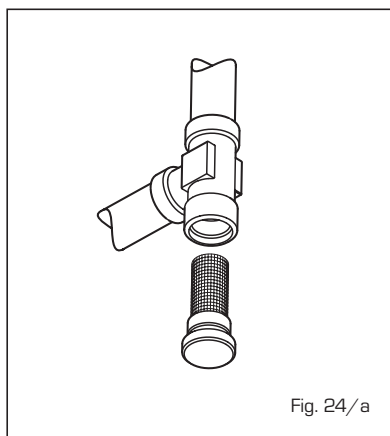

Fig. 24/a
4.7.2 Cleaning the filter "Aqua Guard Filter System" [fig. 24/a]